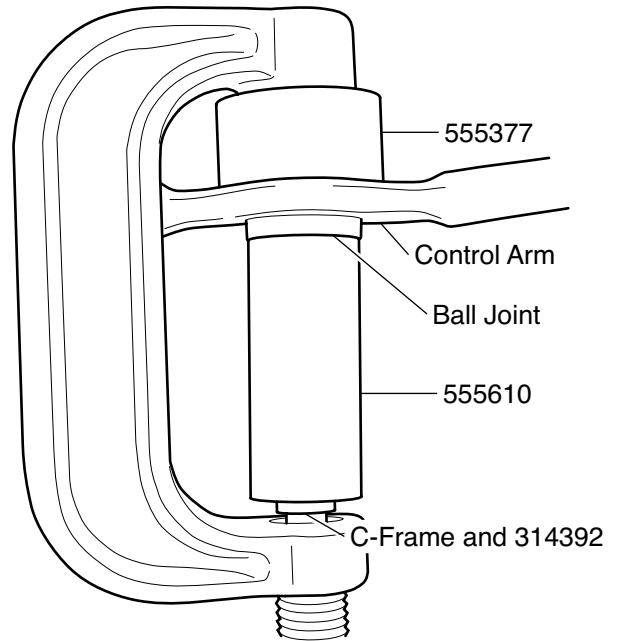

Figure 1. Ball Joint Removal
3. Position 555610, 314392 and the C-Frame as shown in Figure 1.